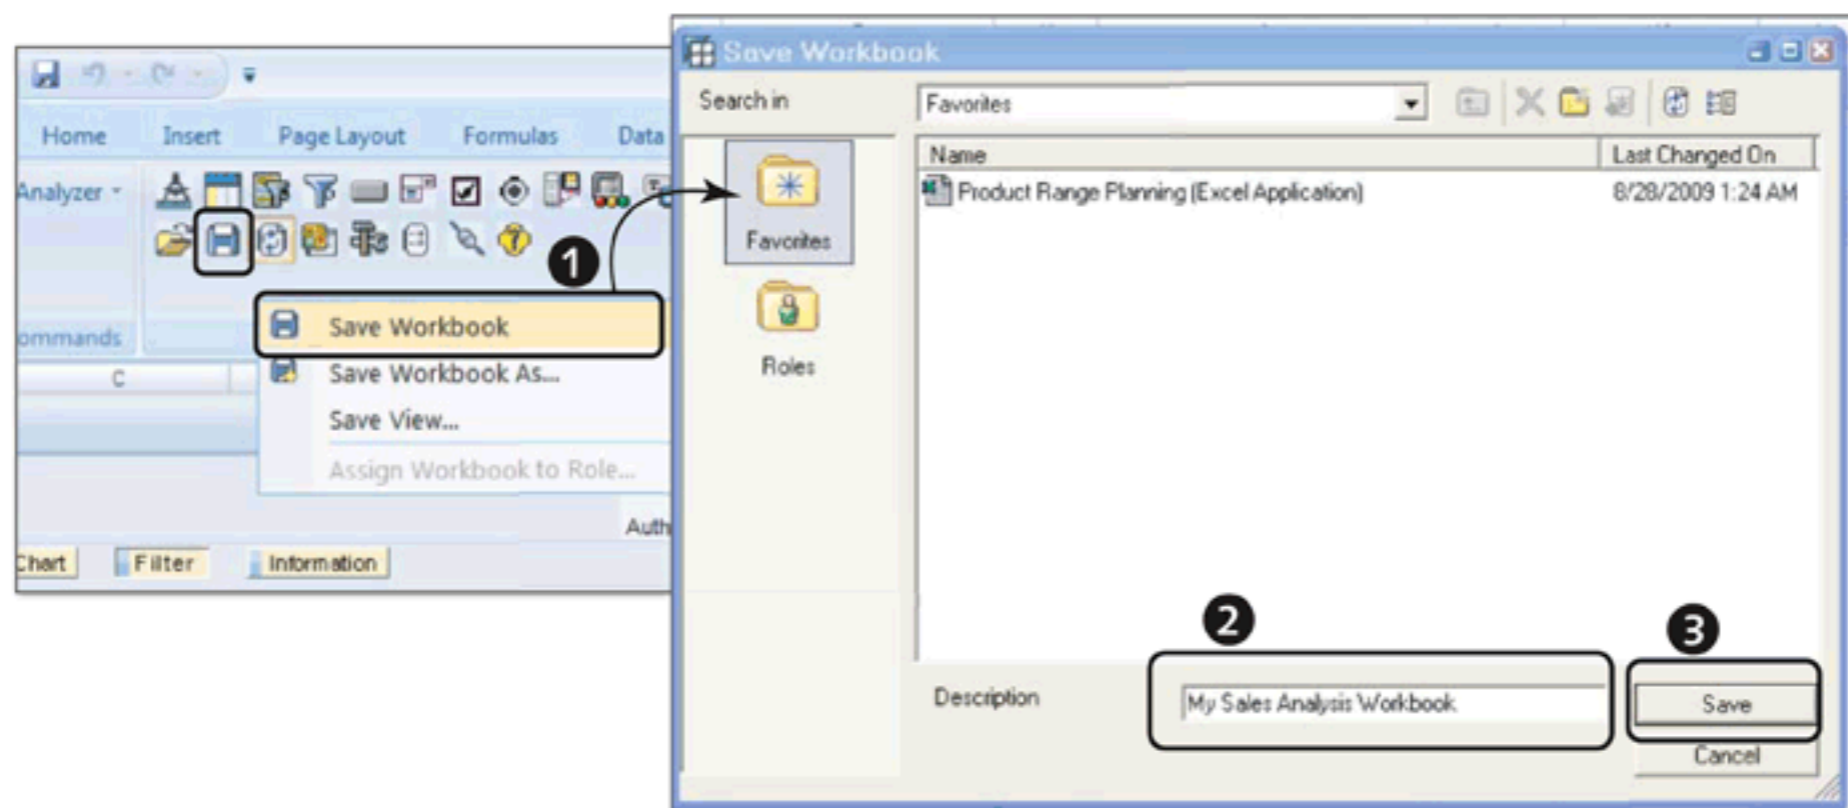

Figure 10.24 Save a New Workbook
After you've finished analysis in the workbook, you can save it on the SAP NetWeaver BW server so that you can later reuse the analysis or perform a new analysis. To save a workbook, click on the SAVE button, as shown in ❶ of Figure 10.24. Select SAVE WORKBOOK to save this workbook on the server.
Give a proper description to the workbook (❷), and click on SAVE (❸) to save the workbook in your favorites for future access. If you want to make this workbook available to other users, you can save it under a specific role (Figure 10.24). All of the users under that role can then access the same workbook for their analysis.